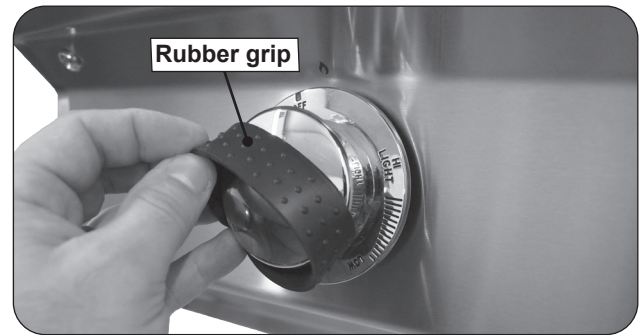

Fig. 35-1 Rubber grips removal
2. Remove the rubber grip from a control knob (see Fig. 35-1).